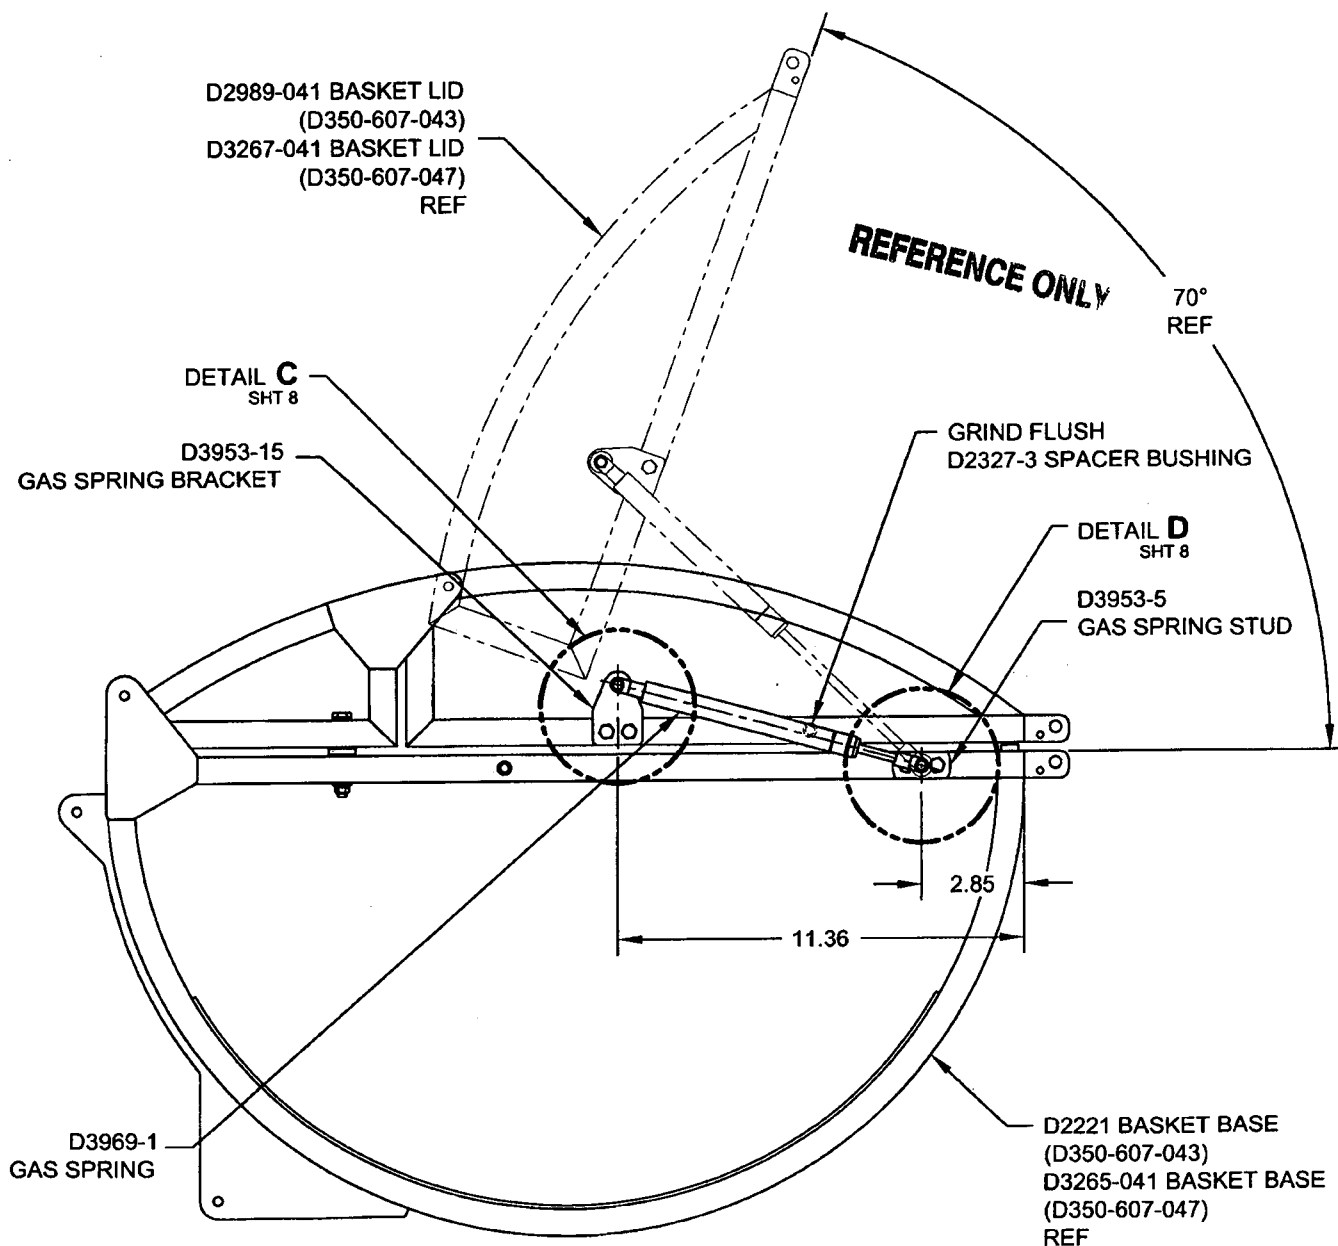

FIGURE 2
- 2) GRIND FLUSH THE D2327-3 SPACER BUSHING ON THE END OF THE BASKET WHERE THE LID OPENER IS BE INSTALLED AS SHOWN IN FIGURE 2 (IT IS PERMISSIBLE TO GRIND ALL 4 SPACERS FLUSH). TOUCH UP PAINT PER ICA-D350-607 REV. 0 SECTION 5.1 ITEM 4.
- 3) LOCATE THE D3953-15 GAS SPRING BRACKET AS SHOWN IN FIGURE 2. TRIM STEEL MESH LOCALLY AS REQUIRED. TOUCH UP PAINT PER ICA-D350-607 REV. 0 SECTION 5.1 ITEM 4. TRANSFER MARK AND DRILL 2X Ø0.194 HOLES THRU THE BASKET LID SQUARE TUBE STRUCTURE AS SHOWN IN DETAIL C. INSTALL THE D3953-15 GAS SPRING BRACKET & D3953-17 GAS SPRING SPACER USING 2X AN3C15A BOLT, 2X NAS1149C0332R WASHER & 2X MS21043-3 NUT AS SHOWN IN VIEW G-G.
- 4) LOCATE THE D3953-5 GAS SPRING STUD AS SHOWN IN FIGURE 2. TRIM STEEL MESH LOCALLY AS REQUIRED. TOUCH UP PAINT PER ICA-D350-607 REV. 0 SECTION 5.1 ITEM 4. TRANSFER MARK AND DRILL 2X Ø0.194 HOLES THRU THE BASKET BASE SQUARE TUBE STRUCTURE AS SHOWN IN DETAIL D. INSTALL 2X AN3C11A BOLT, 2X NAS1149C0332R WASHER & 2X MS21043-3 NUT AS SHOWN IN VIEW H-H. INSTALL THE ROD END OF THE D3969-1 GAS SPRING ONTO THE D3953-3 GAS SPRING STUD USING 1X D3953-9 GAS SPRING WASHER, 1X NAS1149C0432R WASHER, 1X AN310-4 CASTELATTED NUT & 1X MS24665-212 COTTER PIN AS SHOWN IN VIEW H-H. INSTALL COTTER PIN PER MS33540 OR AC43.13 CHAPTER 7-127.